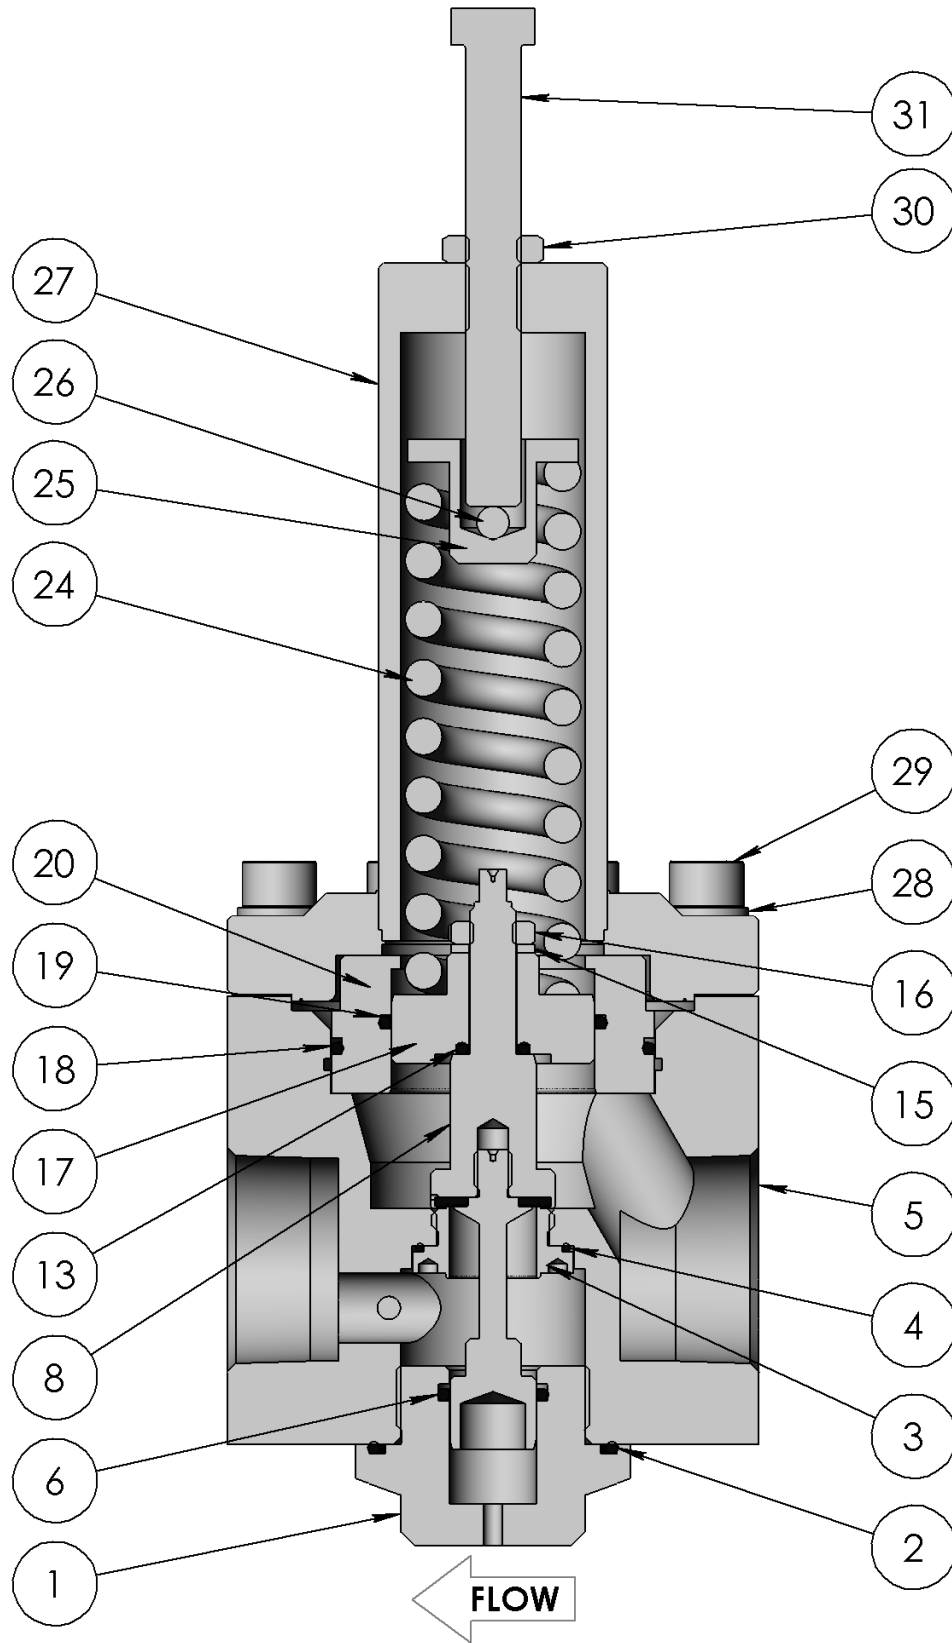

Fig 5
- 4c. For a piston sensor with a poppet nut (16) refer to Fig 5. Remove the sensing assembly from the body (5). Remove the piston (17) from the piston plate (20) then remove the poppet nut (16) and washer (15) to release the poppet (8) and O-ring (13).
5. If present, remove the O-ring (6) and backup ring (7) from the poppet (8).
6. Remove the piston O-ring (19), piston plate O-ring (18) and, if present, piston backup ring (23) from the piston plate (20).
7. Remove the body plug (1).
8. Remove the body plug O-ring (2) and, if present, poppet O-ring (6) from the body plug (1).
9. Remove the seat (3) and seat O-ring (4) using the seat insertion tool.
4. Fit the poppet O-ring (6) into the body plug (1) and lightly lubricate it.
6. Fit the O-ring (13) and piston (17) onto the poppet (8) per Fig 5.
7. Lightly lubricate the poppet threads (8).
8. Fit the washer (15) and nut (16) onto the poppet (8) and torque to 9 lbf·ft (12 N·m).
9. Fit the piston plate O-ring (18) and piston O-ring (19) onto the piston plate (20).
10. Lightly lubricate the piston O-ring (19) then insert the piston (17) into the piston plate (20).
11. Insert the sensing assembly into the body (5). The poppet (8) is inserted through the seat (3) and into the body plug (1).